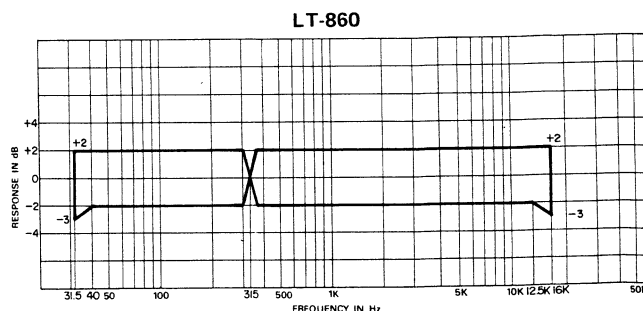

Fig. 7-7 Frequency Response —Playback—
3. Then check and compare the readings obtained on the VTVM with response limits given in Fig. 7-7.